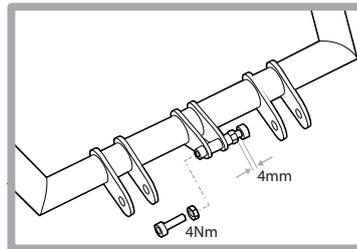

Figure 2
2. Assemble spring anchors on kickstand frame using M5x0.8-16L bolt and M5 nut. Set each bolt head about 4mm from nut. Hold bolt in place (using a 4mm hex wrench) and tighten nut to frame to 4Nm (using an 8mm wrench) (Figure 2).